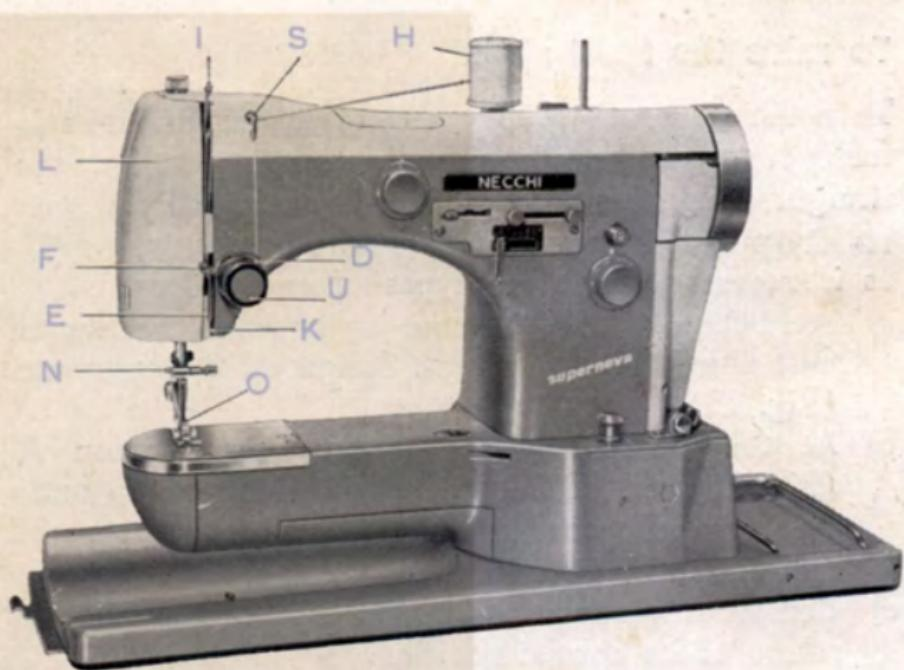

Fig. 13
In order to avoid breaking the upper (needle) thread, the machine must be threaded as follows: (Fig. 13 and diagram 13 a):
- b) Run spool thread along the machine arm and through the two holes in the arm thread guide S (Fig. 13).